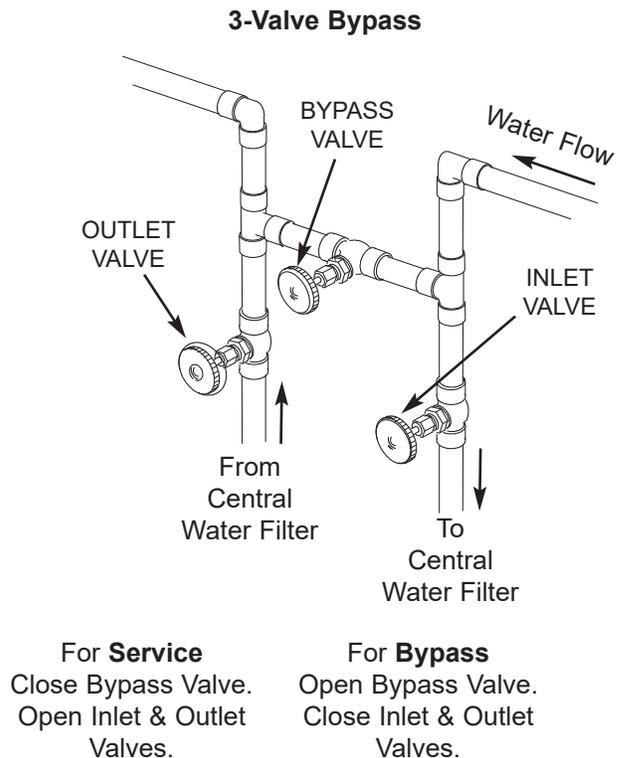

FIG. 86
3-VALVE BYPASS (See Figure 86)
4. Are plumbing bypass valve(s) in service position (See Figures 86 & 87 on Page 29)?